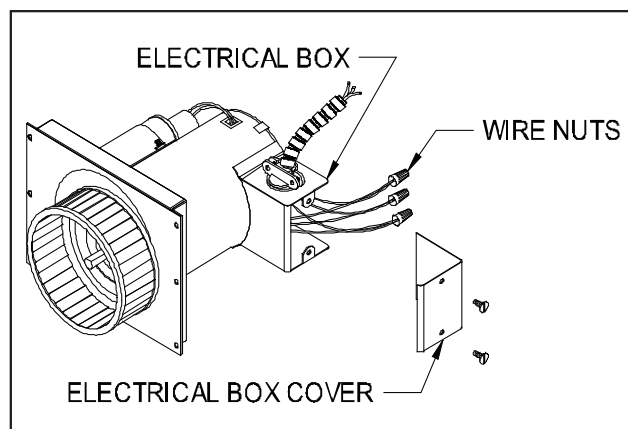

Figure 4
2. Remove the electrical box cover from the motor and disconnect the conduit and wires. (See Figure 4) You do not need to disconnect the wires from the control kit.